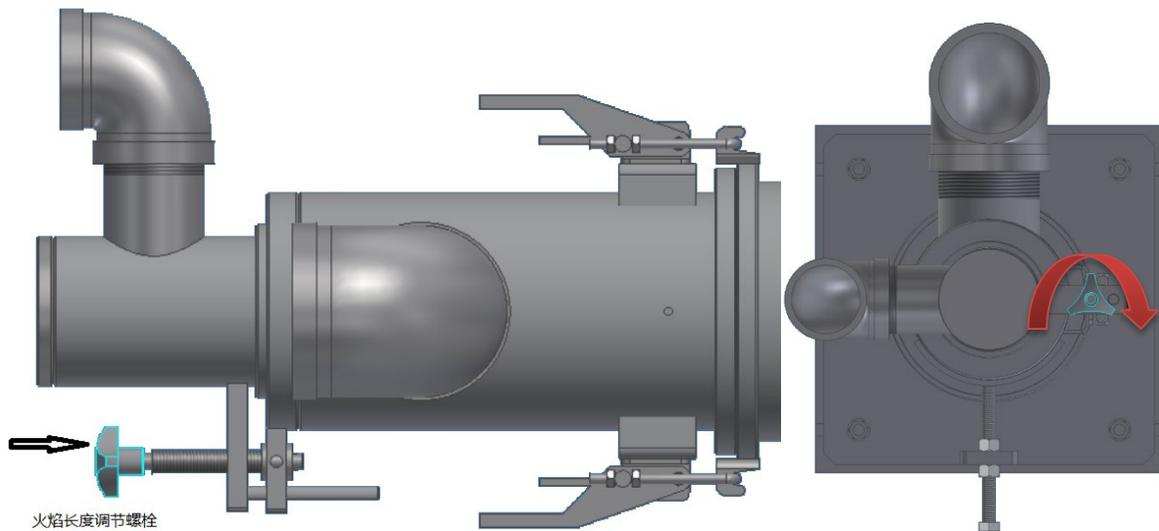

Figure 3: Diagram of FFO50 FlexFire® Oxygen Fuel burner adjustment knob
1. When the gas flow reaches the normal flow rate, the flame length could be adjusted by flame length adjustment knob, shown in Figure 3.
2. Rotating the guide bolt (clockwise) to shorten the flame, shown in figure 3.
3. Rotating the guide bolt (counterclockwise) to extend the flame, is shown in figure 3.